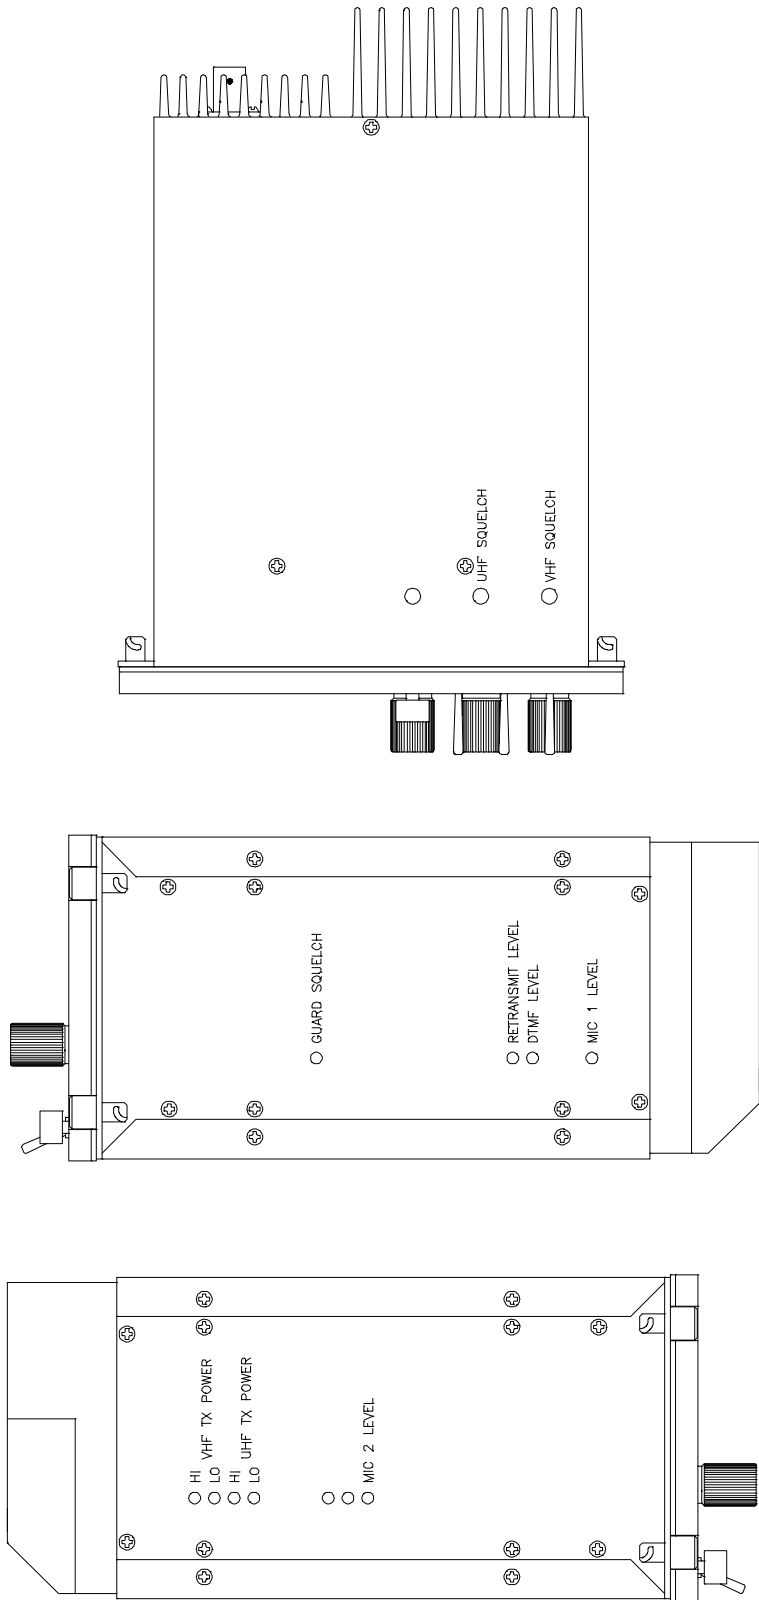

FIGURE 3-4 External Adjustment Access Holes
3. Adjust the microphone level potentiometer (Mic Level 1) through the access hole located on the right side of the chassis (see Figure 3-4) to produce a 2.7 kHz deviation.
3. If not, re-adjust receiver squelch potentiometer through the access hole located on the bottom or side of the transceiver chassis (see Figure 3-4).